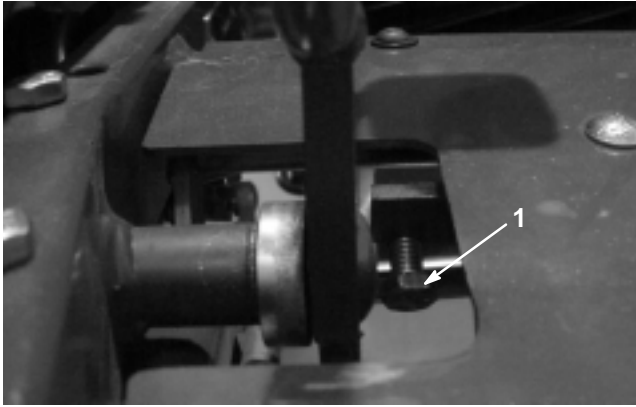

Figure 53
1. Loosen jam nut on pedal lock capscrew (Fig. 53).